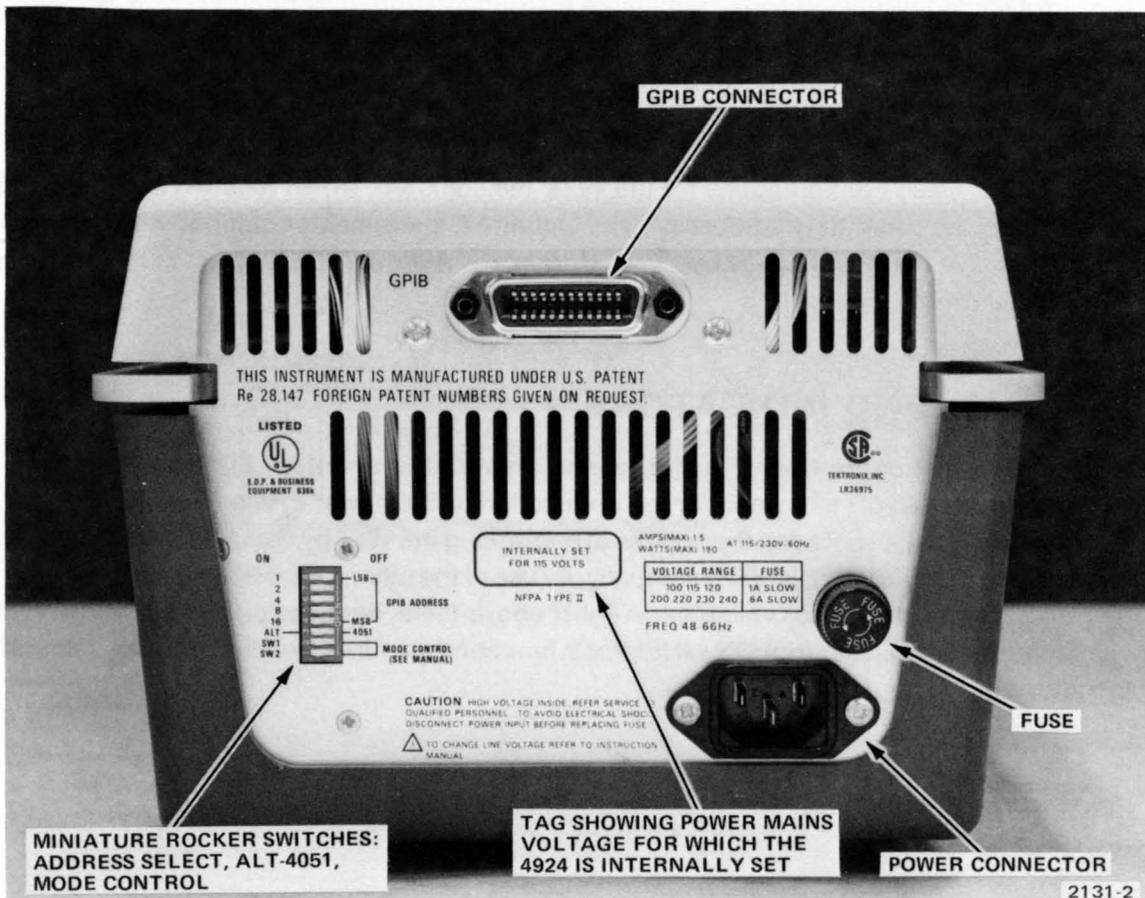

Fig. 1-3. Rear Panel.
In the lower left part of the rear panel (Fig. 1-3) are eight miniature rocker switches mounted in one dual-in-line package. Of these, the top five are the GPIB ADDRESS switches; they are used to select the device address (or addresses) by which the 4924 is addressed over the GPIB. The other three switches are the ALT-4051 switch and the two MODE switches, SW1 and SW2; their function is described below, under "Manual Operation".
2. If the 4924 is equipped with Option 37, set the ALT-4051 switch on the rear panel to 4051. This is the third switch from the bottom of the eight miniature rocker switches in the lower left part of the rear panel (Fig. 1-3). On standard 4924's (not equipped with Option 37) it is not necessary to set this switch.
3. Choose a "device address"¹ in the range from 1 to 30 for the 4924, and encode it as a binary number, using the GPIB ADDRESS switches. These are the five uppermost of the miniature rocker switches just mentioned (Fig. 1-3).